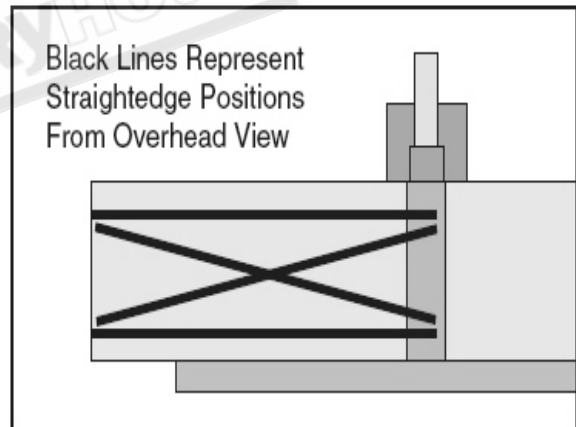

Figure 31. Straightedge positions for verifying if outfeed table is parallel with cutterhead.
3. Place the straightedge on the outfeed table so it hangs over the cutterhead in one of the positions shown in Figure 31.
5. Continue placing the straightedge in the remaining positions shown in **Figure 31**. In each position, the feeler gauge measurement should be nearly identical. If the outfeed table height above the cutterhead is equal across the table in each position, then the outfeed table is already parallel with the cutterhead. Go to **Checking Infeed Table Parallelism**, on **Page 22**.